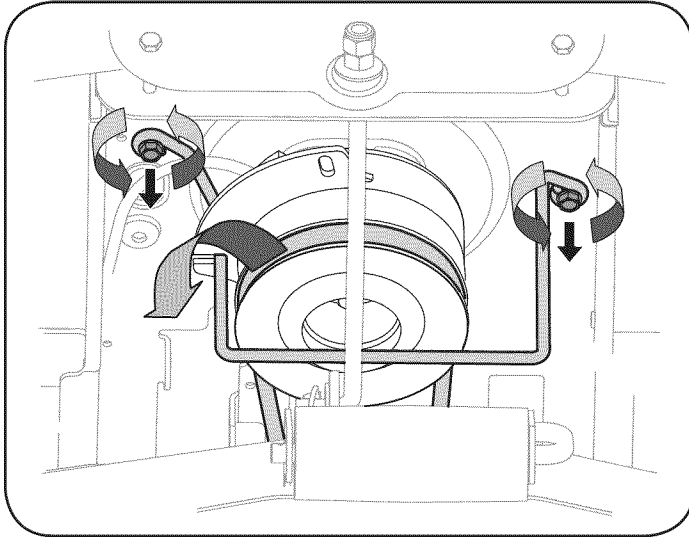

Figure 10
3. Locate the PTO clutch under the front of your tractor. See Figure 10.
4. Remove the belt guard and belt from the PTO pulley as follows. Refer to Figure 10:
- Replace the PTO pulley belt guard. See Figure 10.